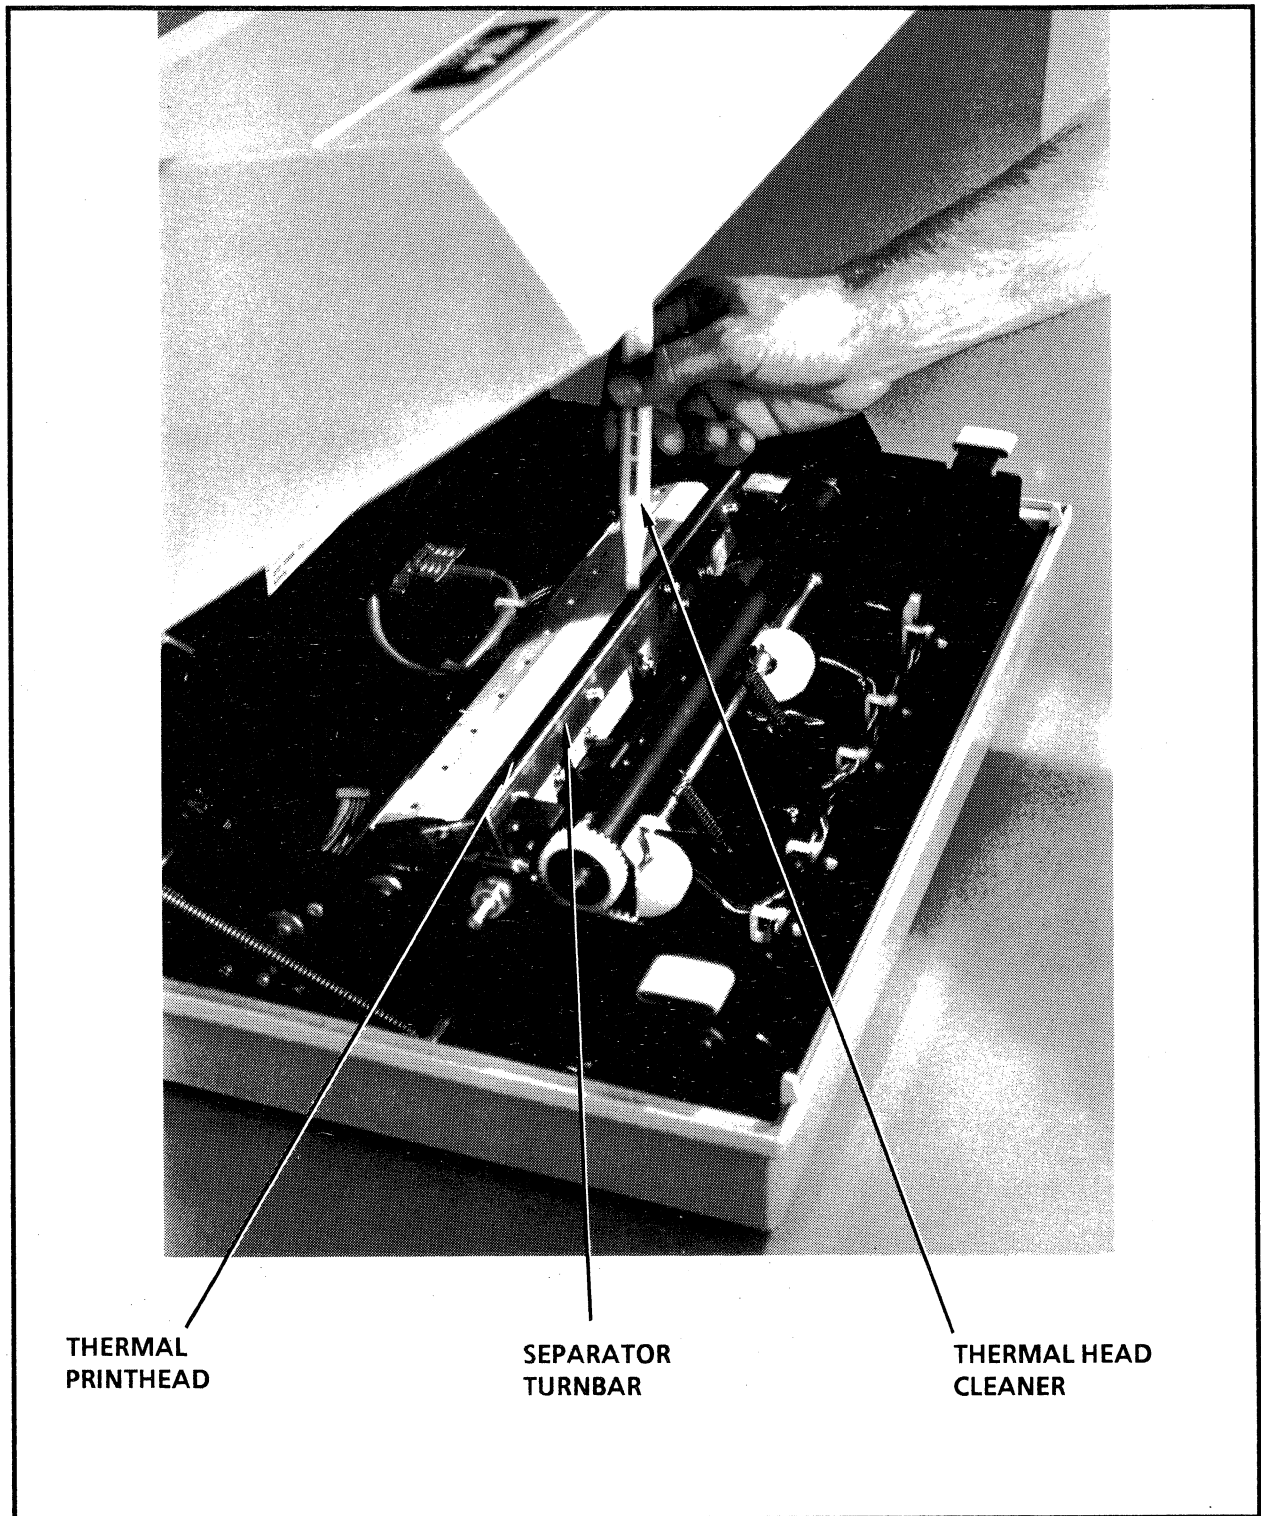

Figure 5-2. Cleaning the Thermal Printhead
### **Cleaning the Separator Turnbar** (shown in Figure 5-2)
1. Locate the separator turnbar (Figure 5-2).
### **Cleaning the Thermal Printhead** (shown in Figure 5-2)